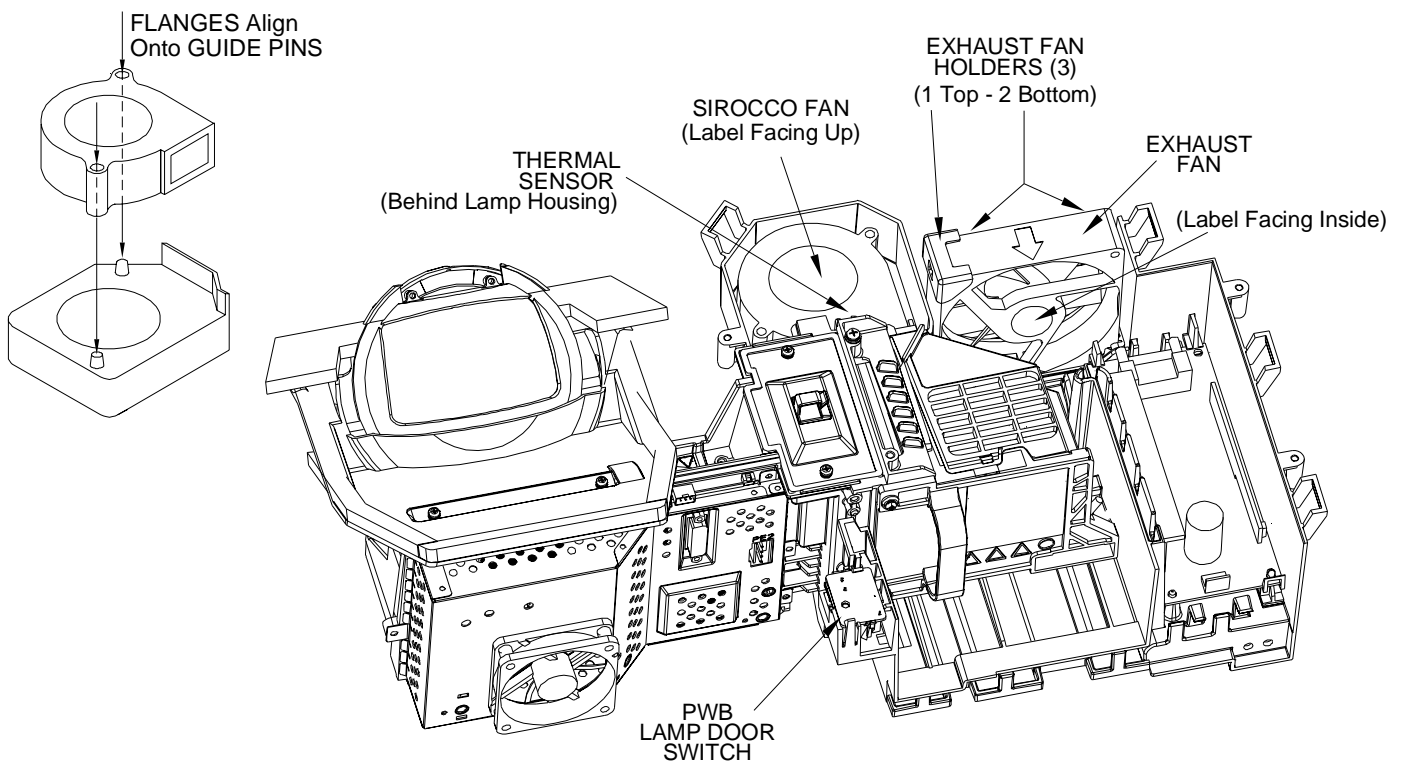

Figure 3: Lower Duct (Top View)
- 1) Figure 3 shows the Duct Interior Components.